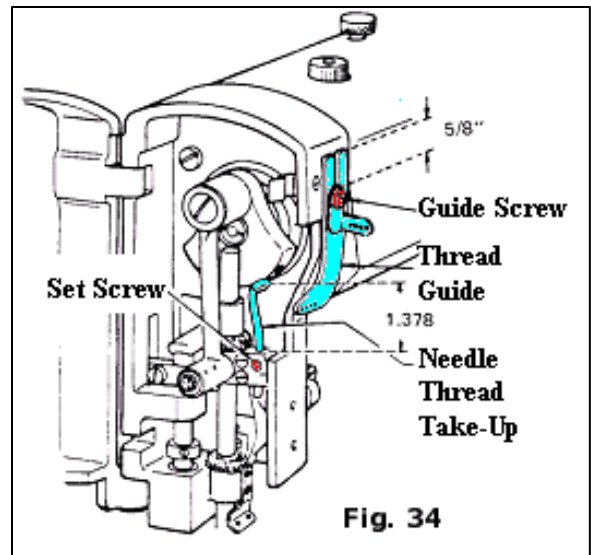

Fig. 34
**Adjustment:** To increase the amount, loosen the thread take-up screw, Fig. 34, and raise the take-up or loosen the guide screw and lower the guide. To decrease the amount, reverse the adjustment by lowering the take-up or raising the guide.